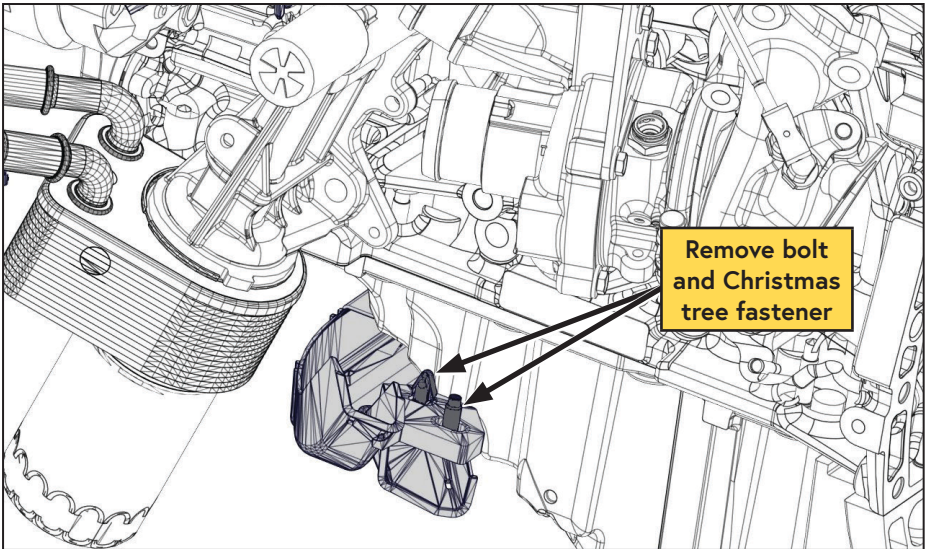

Figure 9 — Remove cable tray
- Remove the bolt and Christmas tree fastener from the driver side cable tray and set them aside for later (Figure 9).